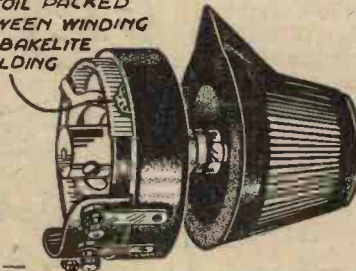

Fig. 3.—
**I** HAVE a three-valve mains set with a volume control in the form of a potentiometer which serves to regulate the voltage to the screening grid of the S.G. valve. The set has been in use for nearly two years, but I found to-day that if the potentiometer knob was turned past a certain point the set became dead. Obviously the potentiometer was wrong, but I could see no break in the very fine windings. There wasn't another suitable potentiometer on hand, so I could see I should have to repair the old one somehow or other. So I turned the knob slowly until the break was reached, made a small pencil mark on the winding track and removed the potentiometer from the set. It was only a matter of minutes before it was completely repaired by packing a piece of tinfoil from a cigarette packet over the place where the break had been located. By chance the idea may be of use to you, so I give a sketch (Fig. 3) to show how the repair was effected.